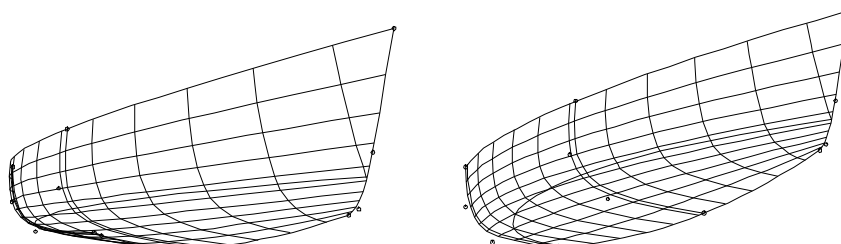

Fig. 3 Perspective view (left) and orthographic view (right) of DEMO model at Lat -10, Lon 20.
**Toggle this viewpoint back and forth between Orthographic and Perspective** (use the **toolbar button**) and notice the relative size of the near and far ends of the boat in the two views. The Perspective view is much more pictorial (Fig. 3, left). The Orthographic view is like a picture taken from very far away, with a long telephoto lens (Fig. 3, right).